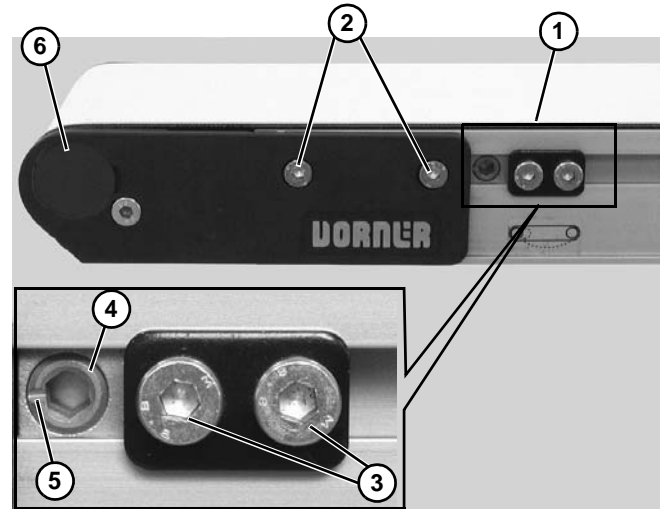

Figure 43
Non V-guided belt conveyors are equipped with belt tracking cam assemblies (**Figure 43, item 1**) for belt tracking adjustment.
- Ensure head plate fastening screws (**Figure 43, item 2**) on both sides of conveyor are tightened.
- On both sides of conveyor, loosen two (2) cam fastening screws (**Figure 43, item 3**). Adjust cams (**Figure 43, item 4**) until indicator slots (**Figure 43, item 5**) are horizontal and facing end of conveyor. Then slide cam assemblies against head plates (**Figure 43, item 6**) and re-tighten cam fastening screws (**Figure 43, item 3**) to 60 in-lb (7 Nm).
- On the side toward which the belt is tracking, loosen head plate fastening screws (**Figure 43, item 2**).
- With the conveyor running, use a 5 mm hex-key wrench to rotate the tracking cam (**Figure 43, item 4**) in small increments until the belt tracks in the center of the conveyor. Then while holding the cam in position, re-tighten the head plate fastening screws (**Figure 43, item 2**) with a 4 mm hex-key wrench to 60 in-lb (7 Nm).